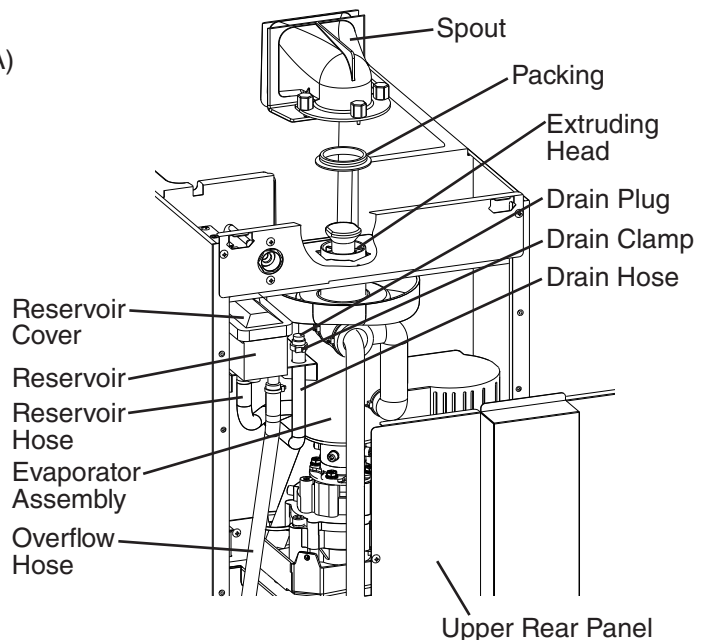

Fig. 14
- 9) Remove the clamp securing the drain plug, then lower the drain hose into a container. See Fig. 14. Remove the drain plug to drain the water from the reservoir and evaporator assembly.